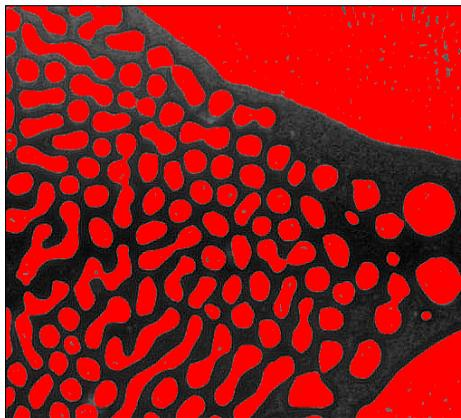

Figure 3-7. Testing the Particle Analysis Script
5. Double-click the Threshold step in the script window to open the Threshold Setup window. Figure 3-7 shows `Metal3.jpg` at the thresholding step of the script.